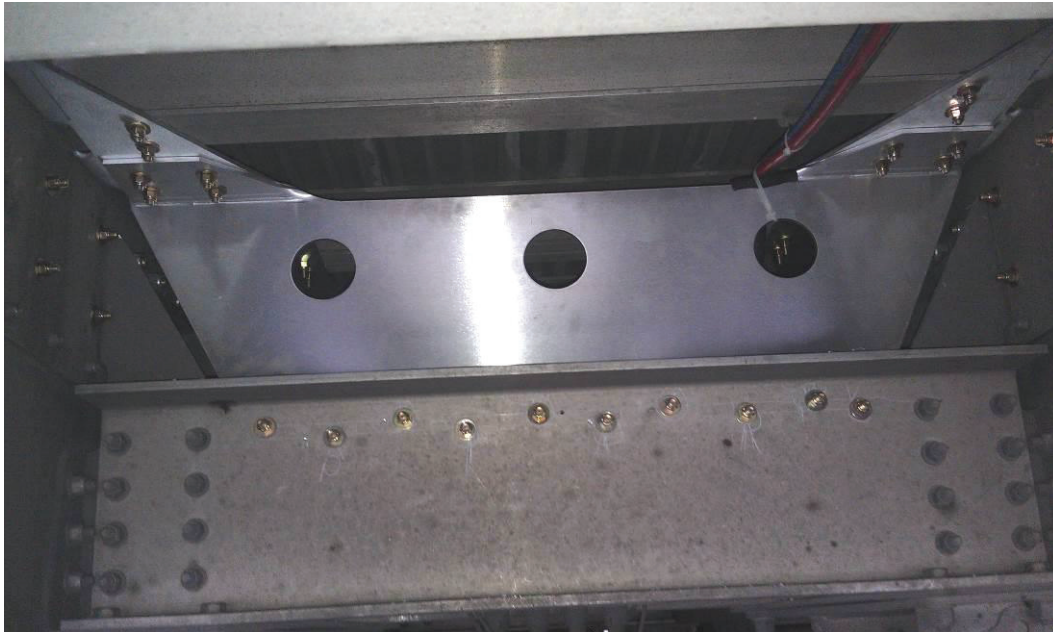

Figure 5. 40100735 installation
- Front suspension installation should appear similar to Figure 5.